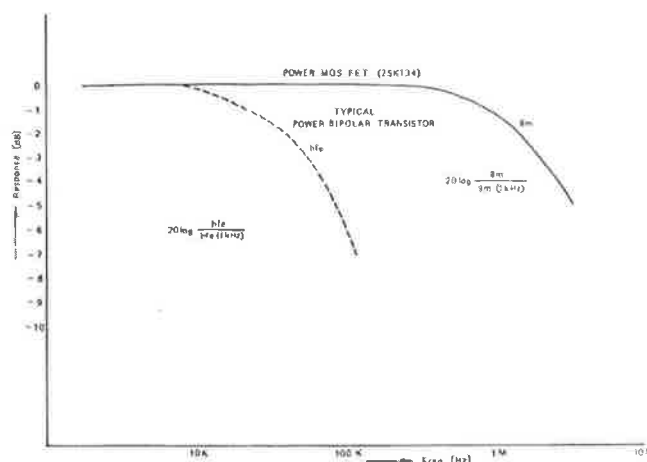

Figure 1. Frequency Response
1. Superior high frequency performance (figure 1)